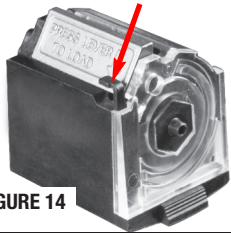

FIGURE 14
- Locate the first round load assist lever on the magazine (FIGURE 14).